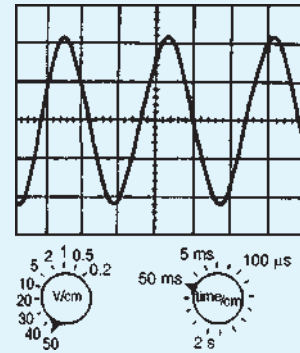

Figure 10.23
- For the sinusoidal waveform shown in Fig. 10.23, determine (a) its frequency,